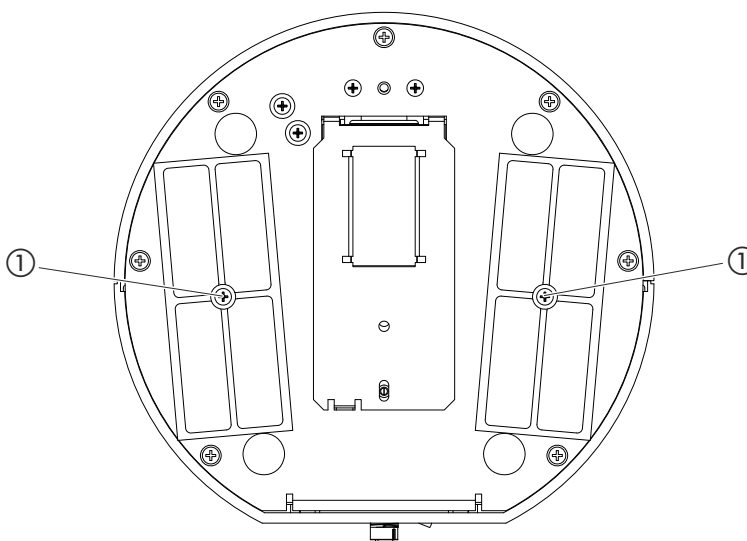

Fig. 15: View from below
- 3 Loosen both screws in the middle of the filter holder, see Fig. 15 on Page 61.